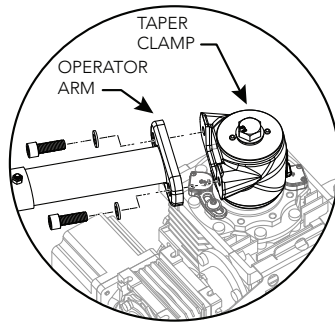

Figure 9. Operator Arm to Taper Clamp
2. Attach the operator arm to the taper clamp (Figure 9).